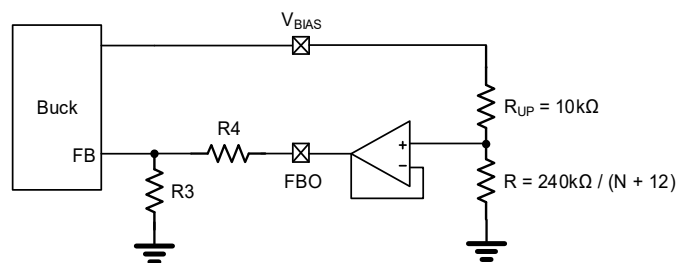

Figure 2: FB Divider Network Set-Up
11. R3 and R4 form a feedback (FB) divider network that uses AFC to adjust V_{BIAS_PRE} (see Figure 2).